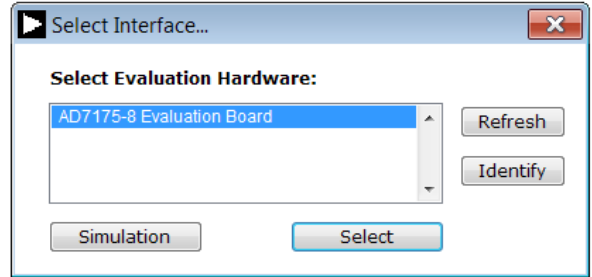
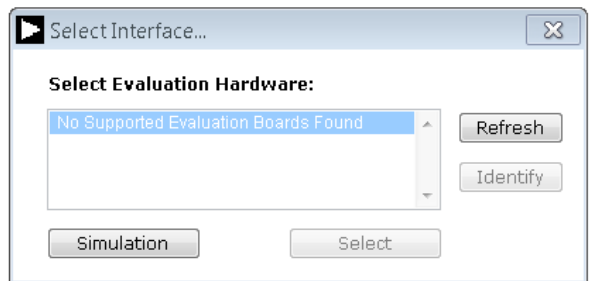

Figure 13. AD7175-8 Evaluation Board Selection
Figure 14. Evaluation Board Selection, No Board Connected
- The dialog box in Figure 13 appears, select **AD7175 Evaluation Board**. The main window of the software box displays as shown in Figure 16.
- If the **Eval-AD7175-8SDZ** evaluation system is not connected to the USB port via the **SDP-B**, when the software is launched the **Select Interface** dialog box appears (see Figure 14). Connect the evaluation board to the USB port of the PC, wait a few seconds, click **Refresh** and the option shown in Figure 13 appears.
The Evaluation Mode indicator displays the current evaluation mode. To switch between modes, click the Select Product button and the dialog box shown in Figure 13 appears.